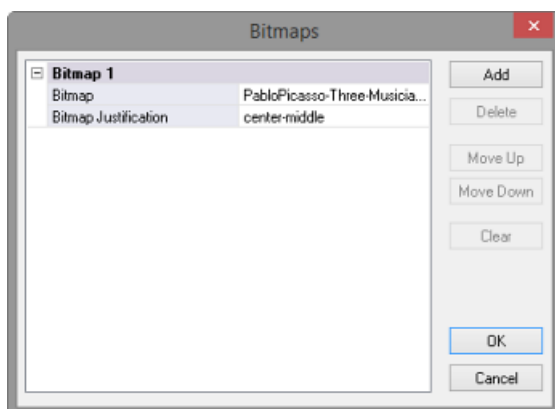

FIG. 23 Bitmaps dialog - Bitmap 1 configured
5. Select an image and click **OK** to close the *Select Resource* dialog and return to the *Bitmaps* dialog. The selected image is indicated as **Bitmap 1** in the *Bitmaps* dialog (FIG. 23):